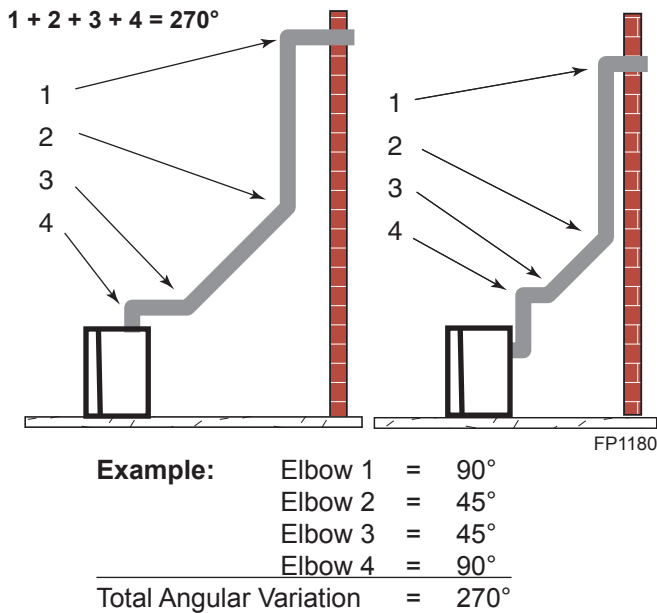

Figure 24 -
- The maximum number of 45° elbows permitted per side wall installation is two (2). These elbows can be installed in either the vertical or horizontal run.
- The maximum number of elbow degrees in a system is 270°. *Figure 24*